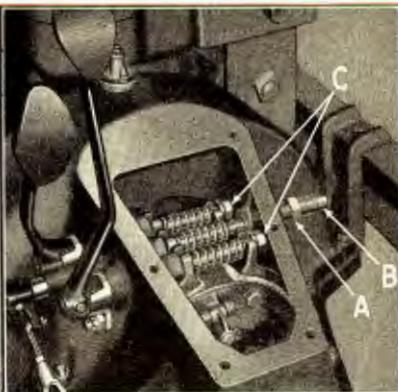

Fig. 132
- 203 Remove transmission cover door (See "B" Fig. 299) and loosen transmission bands by loosening slow speed adjusting screw lock nut (See "A", Fig. 132) adjusting screw "B" and adjusting nuts "C".